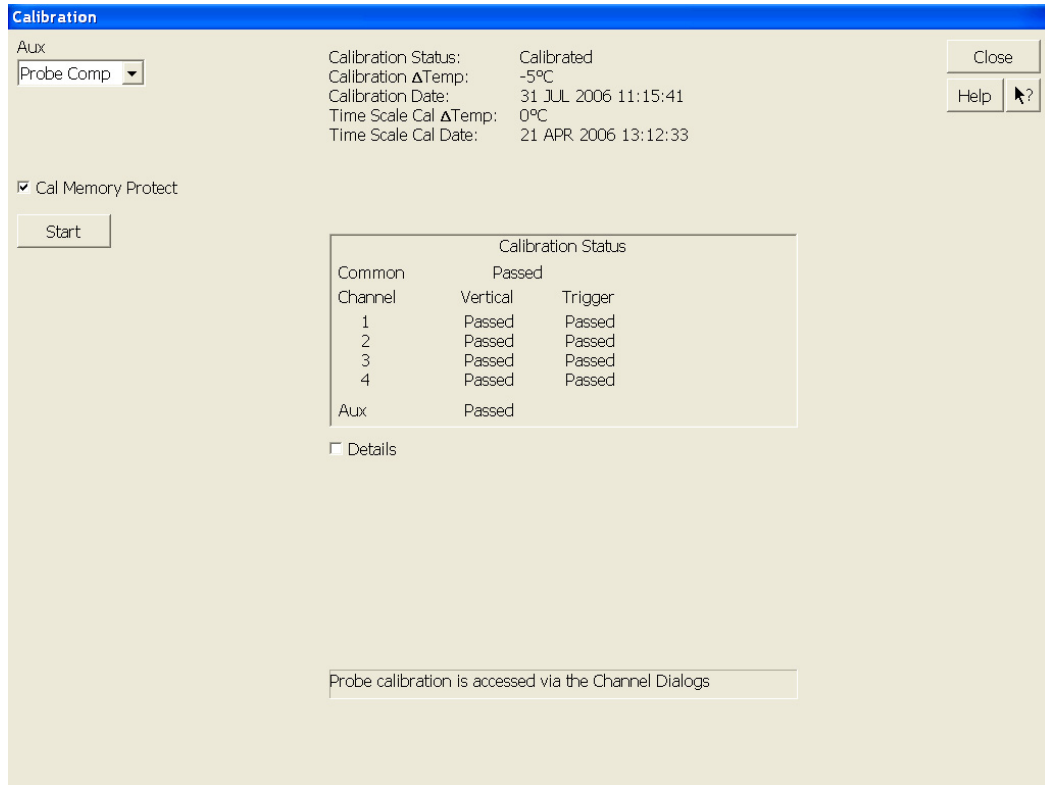

Figure 15 Oscilloscope Calibration Window
- 4 Referring to Figure 15 below, perform the following steps to start the calibration: